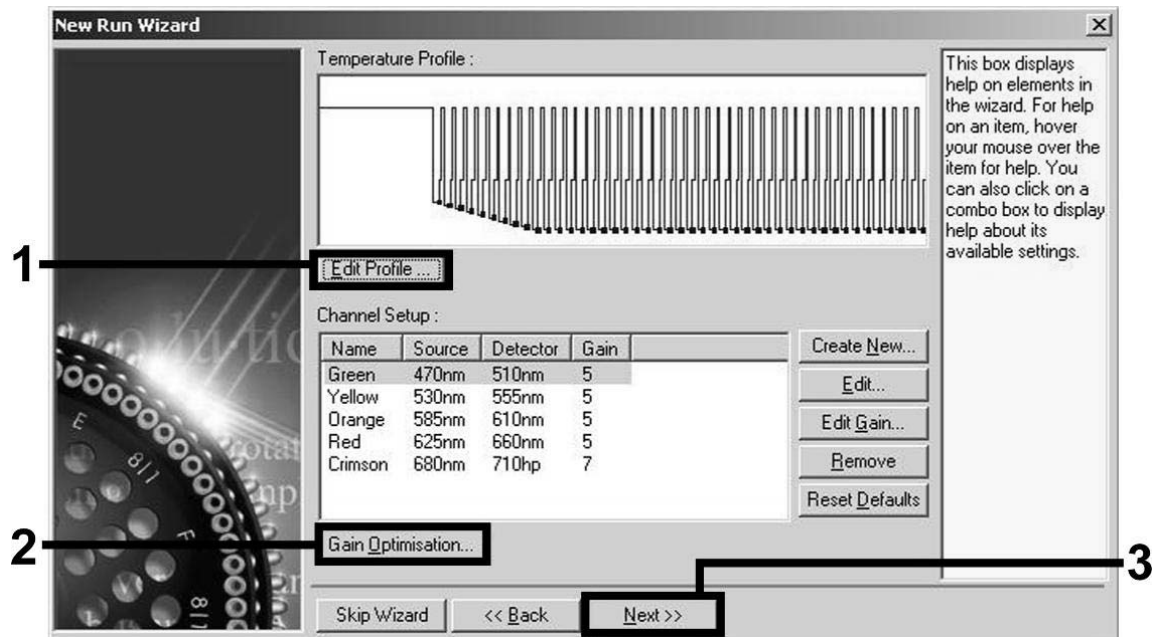
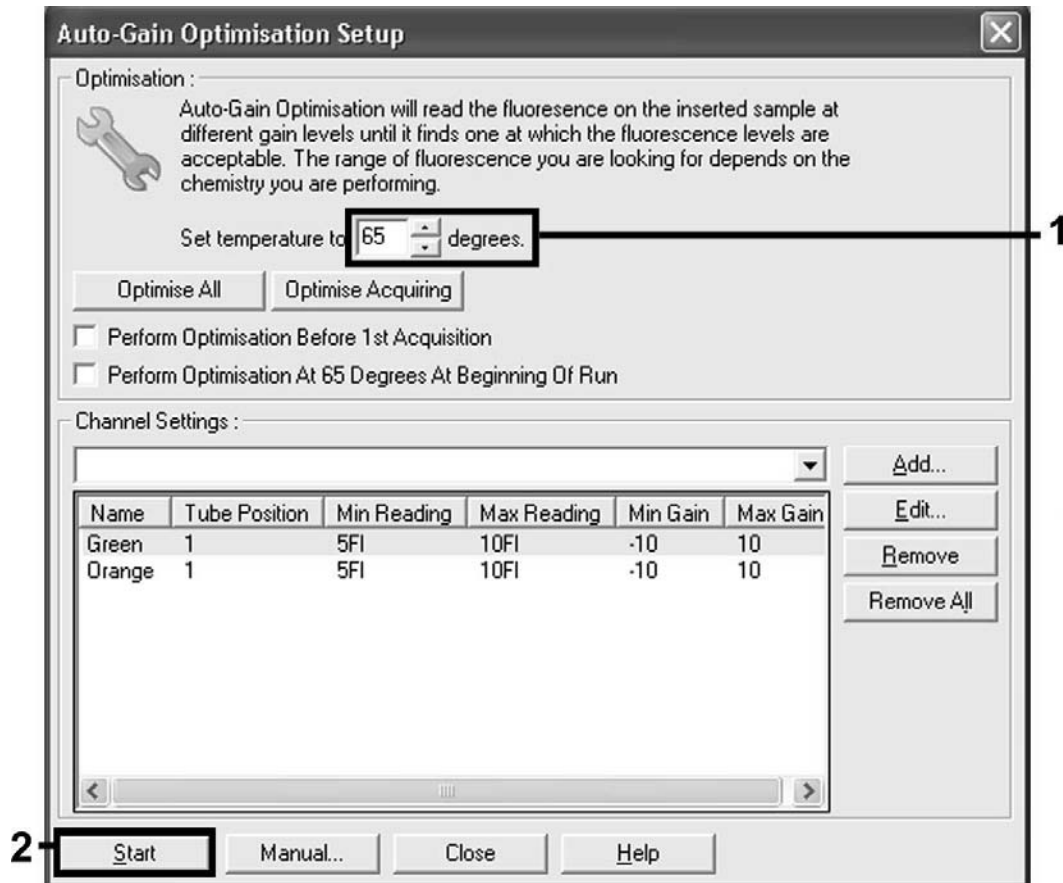

Figure 7. Editing the profile.
Figure 10. Adjusting the fluorescence channel sensitivity.
Adjusting the fluorescence channel sensitivity	Figure 10
- Click the "Edit Profile" button in the next "New Run Wizard" dialog box (Figure 7), and program the temperature profile as shown in Figures 7–9).
7. The detection range of the fluorescence channels has to be determined according to the fluorescence intensities in the PCR tubes. Click "Gain Optimisation" in the "New Run Wizard" dialog box (see Figure 7) to open the "Auto-Gain Optimisation Setup" dialog box. Set the calibration temperature to 65 to match the annealing temperature of the amplification program (Figure 10).